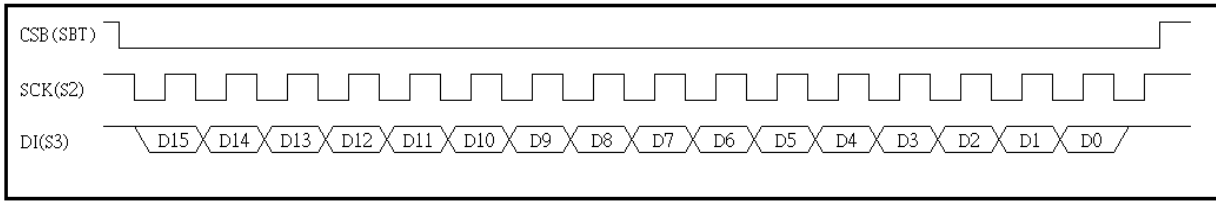
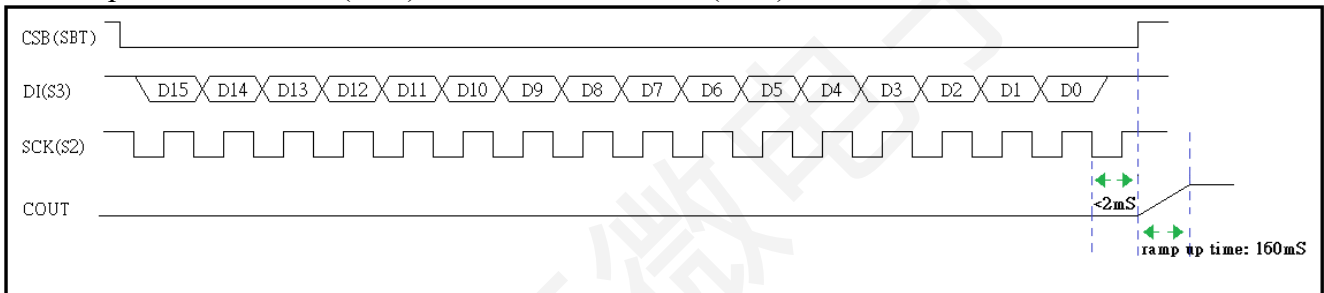
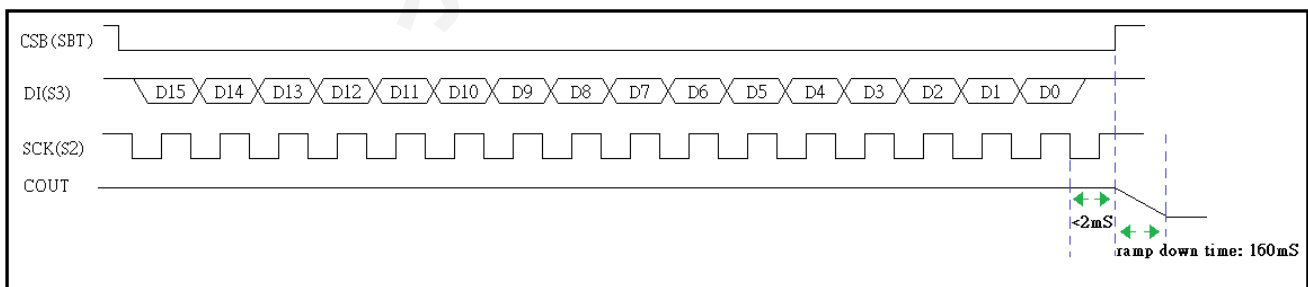

Fig.10 SPI Command timing
Fig. 11 Power-Up command timing
Fig. 12 Power-Down command timing
- (1). Load Voice Group Address :
- a. Command timing reference Fig.10 SPI Command timing.
- (2). Play Voice Group Address :
- (3). Power up with RAMP-UP(PU2) or without RAMP-UP(PU1) :
- a. Command timing reference Fig. 11 Power-Up command timing.
- (4). Power-down with RAMP-DOWN(PD2) or without RAMP-DOWN (PD1) :
- a. Command timing reference Fig. 12 Power-Down command timing.
- (5). Volume Set (VOL[3:0]) :
- (6). Volume - - (VOL--):
- (7). Volume + + (VOL++):
- (8). Pause and Resume (PAUSE; RESUME) :
- (9). Rewind :